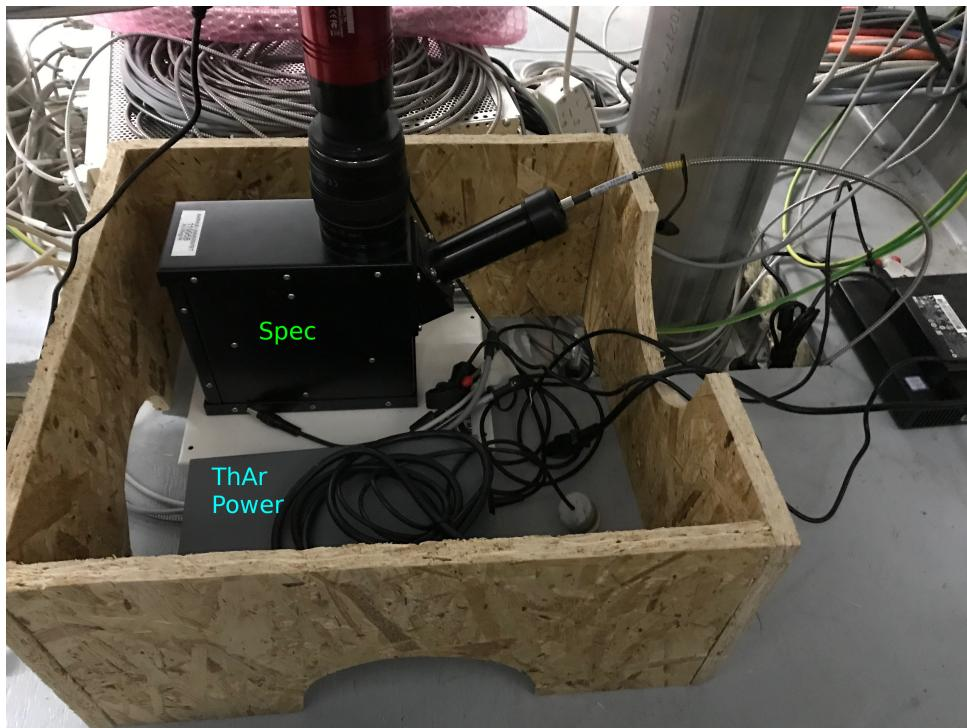

Figure 2: Setup of Eshel spectrograph (**Spec**) and ThAr power supply (**ThAr Power**. The wooden box shields the current working setup.
Please contact me as few days before the re-installation, such I can check that everything is working as it should. My email or phone: [nicholasemborgjannsen@gmail.com](mailto:nicholasemborgjannsen@gmail.com) or +45 22406783, respectively. If you have any questions, just give me a call. The relevant setup can be seen in figure 1, and is physical placed beneath the big SONG spectrograph in the main container. The complete setup is the calibration unit, the ThAr power supply and the eshel spectrograph. The setup is currently shielded from its surroundings by a wooden box as seen in figure 2. As seen from figure 2 all the relevant wires, the fiber etc. is placed inside the wooden box. Next continue with the following steps to re-install the calibration unit to the setup:
2. Place the calibration unit beneath the ThAr power supply inside the wooden box and beside the spectrograph (just like displayed in figure 2).